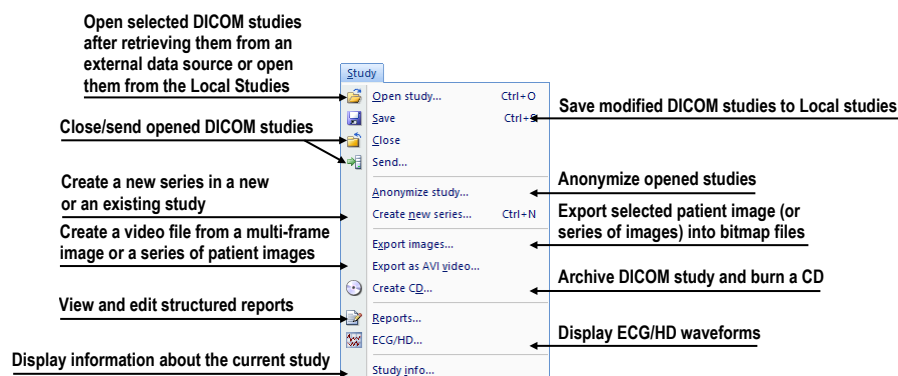

Figure 37 – Study menu
- **Study** – patient study operations containing the functions for opening/closing/saving studies, anonymizing and burning studies onto a CD, exporting images and creating/viewing structured reports (see Figure 37).